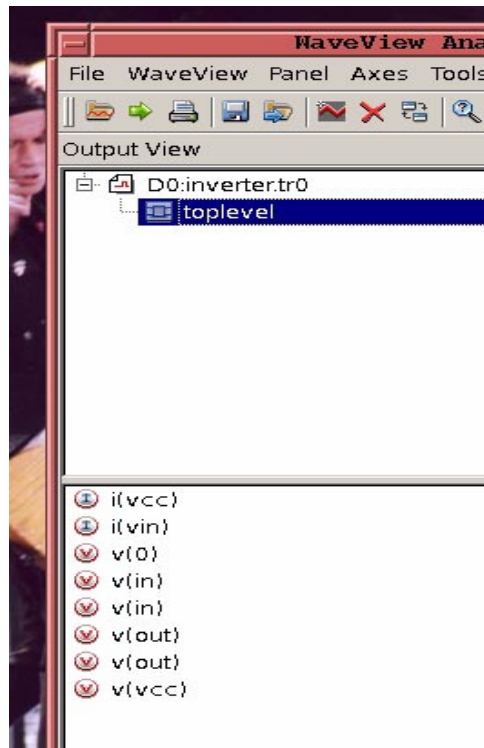

Figure 5: List of nodes in Outview view of Waveform window.
8. Double click on this filename and it will expand to show "toplevel". Double click on "toplevel" and a list of nodes from the circuit netlist will appear as shown in Figure 5.